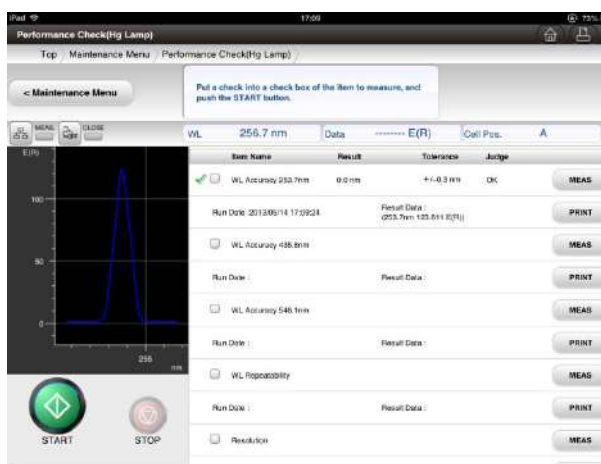

Fig. 6-30 Post-Wavelength Accuracy Check Screen
- (3) The screen (Fig. 6-30) is displayed after the Wavelength accuracy check is finished. The measurement result is displayed on the Wavelength Accuracy section. The difference with the peak value for each Wavelength of the emission line as well as “OK” if the value is within the standard or “NG” if the value is out of the standard are also displayed. In the case of “NG”, perform the “6.4 Wavelength Initialization.” Then, perform the Wavelength accuracy again in the above procedure. If “NG” is displayed again, perform the “6.5 Wavelength Calibration” and check the Wavelength accuracy again in the above procedure. If “NG” is displayed again, see “7.10 Troubleshooting.”